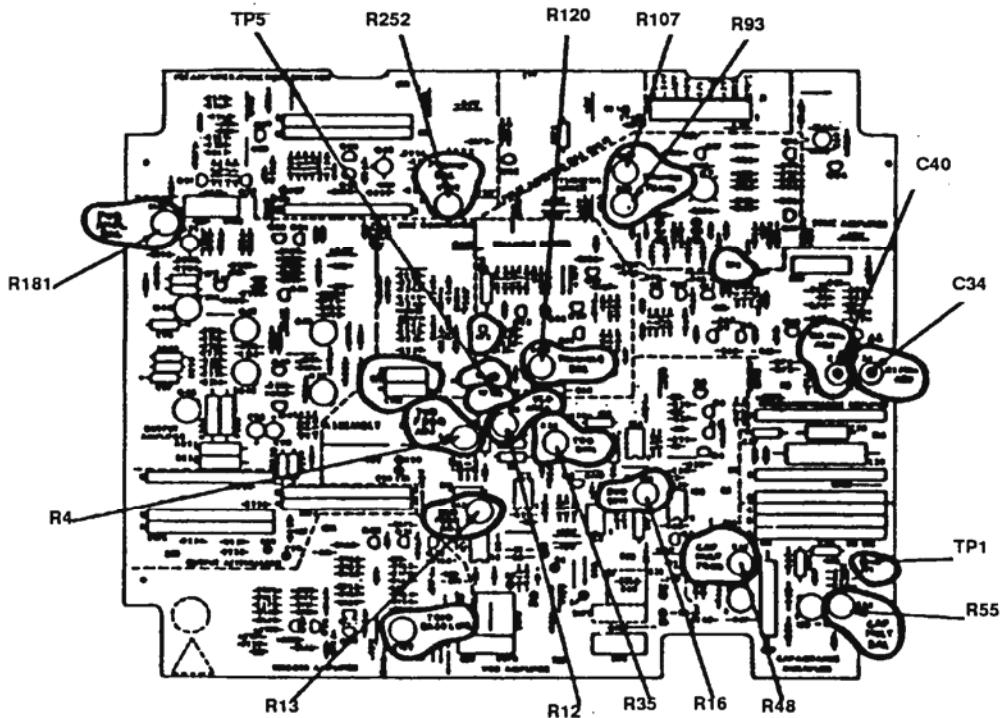

Figure 2. Test instrument - bottom view.
- (1) Adjust R12 (fig. 2) for minimum shift.
- (2) Adjust R13 (fig. 2) for greater than 5 ms.
- (3) Adjust R16 (fig. 2) for best symmetry ± 0.5 percent. (R)
- (4) Repeat **a** (6) and (7) above due to interaction.
- (5) Adjust R35 (fig. 2) for best symmetry ± 0.5 percent. (R)
- (1) Repeat **a** (2) above.
- (2) Connect oscilloscope to audio analyzer output. Sync oscilloscope with **SYNC OUT** using $50\ \Omega$ feedthrough termination.
- (3) Adjust R120 (fig. 2) for symmetrical wave form as indicated on oscilloscope.
- (4) Slightly adjust R93 and R107 (fig. 2) for minimum distortion.
- (5) If R93 or R107 (fig. 2) is adjusted near a stop, recenter both adjustments and repeat paragraph 9 above.
- (1) Set **FREQ/PERIOD MULTI (Hz/s)** switch to **1 K** and frequency dial to **2.0**.
- (2) Adjust R4 (fig. 2) until frequency counter indicates between 1990 and 2010 Hz. (R)
- (3) Set **FREQ/PERIOD MULTI (Hz/s)** switch to **10**.
- (4) Adjust R48 (fig. 2) until frequency counter indicates between 19.9 and 20.1 Hz. (R)
- (5) Set **FREQ/PERIOD MULTI (Hz/s)** switch to **10M**.
- (6) Adjust C40 (fig. 2) for best intolerance condition while varying frequency dial over entire range. (R)
- (7) Set **FREQ/PERIOD MULTI (Hz/s)** switch to **1 M**.
- (8) Adjust C34 (fig. 2) for best intolerance condition while varying frequency dial over entire range. (R)